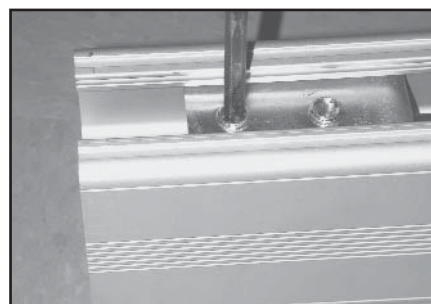

Figure 28
- Tighten stopper in place with 6mm Allen key. Tighten only until snug (Figure 28).